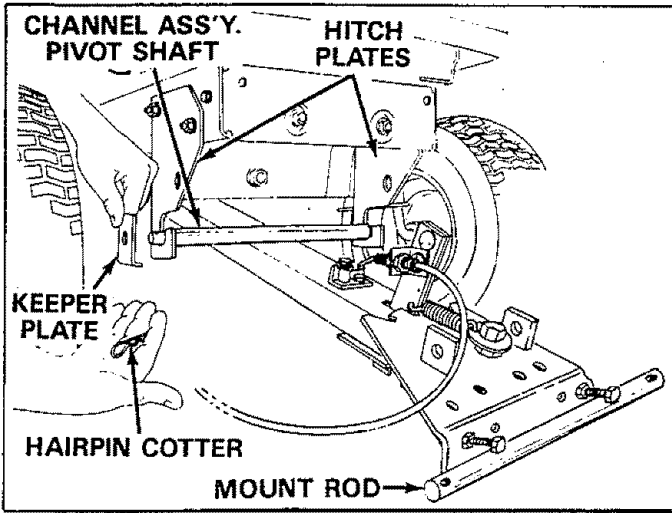

FIGURE 10
- Assemble channel assembly pivot shaft under front of tractor and into hitch plates as shown in figure 10. Assemble keeper plates over ends of shaft (with lip under hitch plates) and secure by placing hairpin cotters through small holes outside keeper plates near each end of shaft.
- Hold blade head upright and guide one end of mount rod into hole near bottom of blade mount gusset. See figures 10 & 11. Secure with a hairpin cotter. Slide other end of mount rod into other blade mount gusset hole and secure with hairpin cotter.